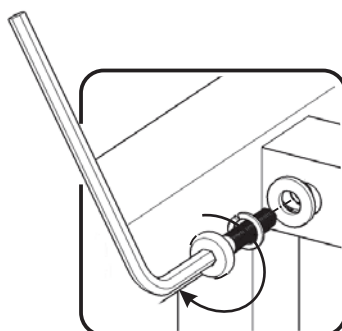

Figure 1
Attach Stretchers (B), (B1) and (C) to Side Frame (D) with Flat Washers, Spring Washers and Head Cap Bolts, tightening bolts only halfway. (See Figure 1)